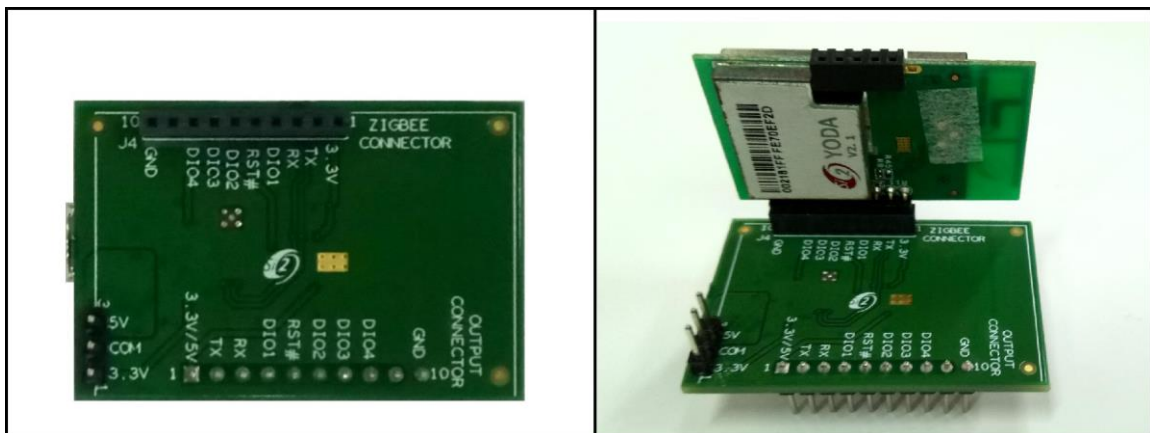

Figure 1: USB Adapter without Yoda (Left), USB Adapter with Yoda mounted on it (Right)
2. Once the USB driver has been installed you may connect Yoda Adapter board (Yoda Mounted on it as shown in Figure 1) to PC using a USB A to Micro AB cable.